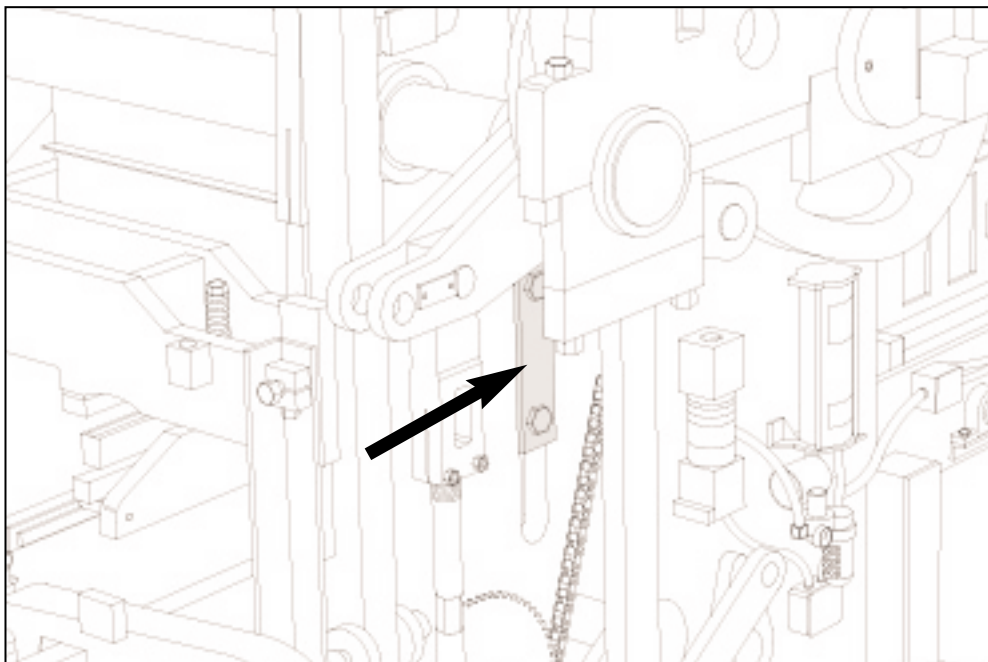

Figure 4.38 TIGHTEN "T" CLAMPS ON BOTH SIDES.
- f. Tighten "T" clamps on each side of machine that secure machine side plate to mold throat plate. See figure 4.38 below.